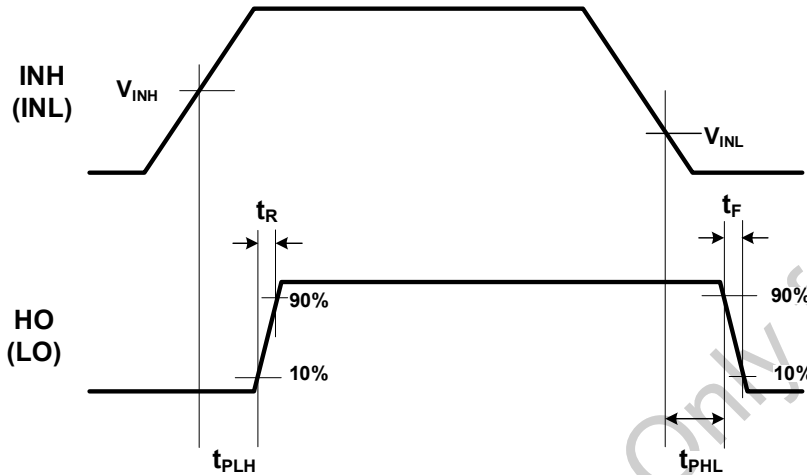

Figure 28. Switching Time Definition
Figure 28 shows the switching time waveforms definitions of the turn-on (t_{PLH}) and turn-off (t_{PHL}) propagation delay times among the driver's two input signal INH, INL and two output signals HO (HOP, HON), and LO (LOP, LON). The typical values of the propagation delay (t_{PLH} , t_{PHL}), delay matching between channels times (MT).